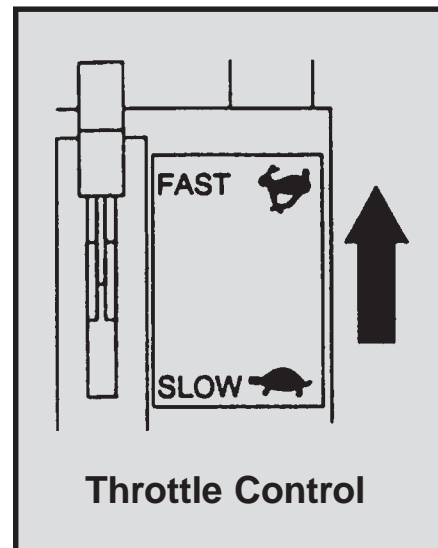

Figure 4
3. Move the throttle control to FAST (not applicable for Models 73040 & 73050). Refer to Figure 4.